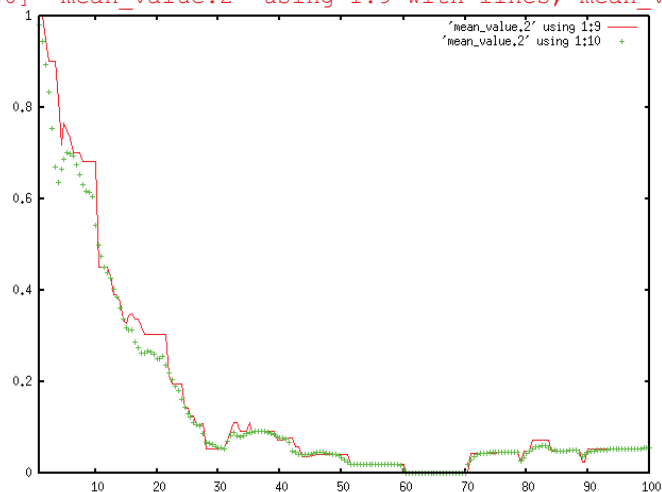

Fig. 9. Fraction of trajectories (solid line) and average adiabatic population (dots) in the second excited state as a function of time.
42. Plot the fraction of trajectories (occupation) and the average adiabatic population for the second excited state as a function of time (Fig. 9).
Fig. 9 shows an exponential decay of the population with time constant (lifetime) of about 20 fs.